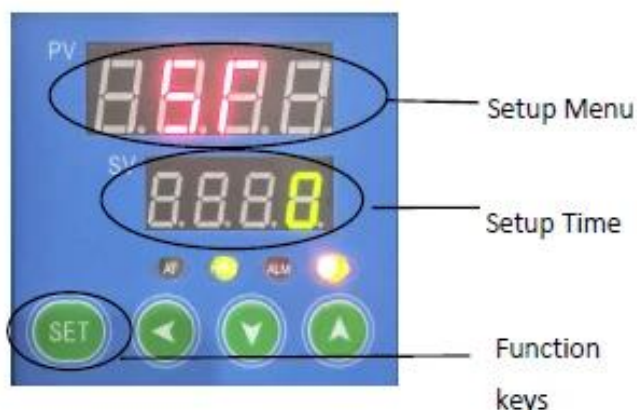

Figure 7
See figure 7, After pressing the SET key for 4 seconds, the PV screen displays "ST" if SV screen display "0", it indicates that timing function not set.
1. Yellow lamp(COLD/AL2)light, high speed operation of fan. 6.2(See figure 7)When the temperature reaches: $PV = SV + F_n$,